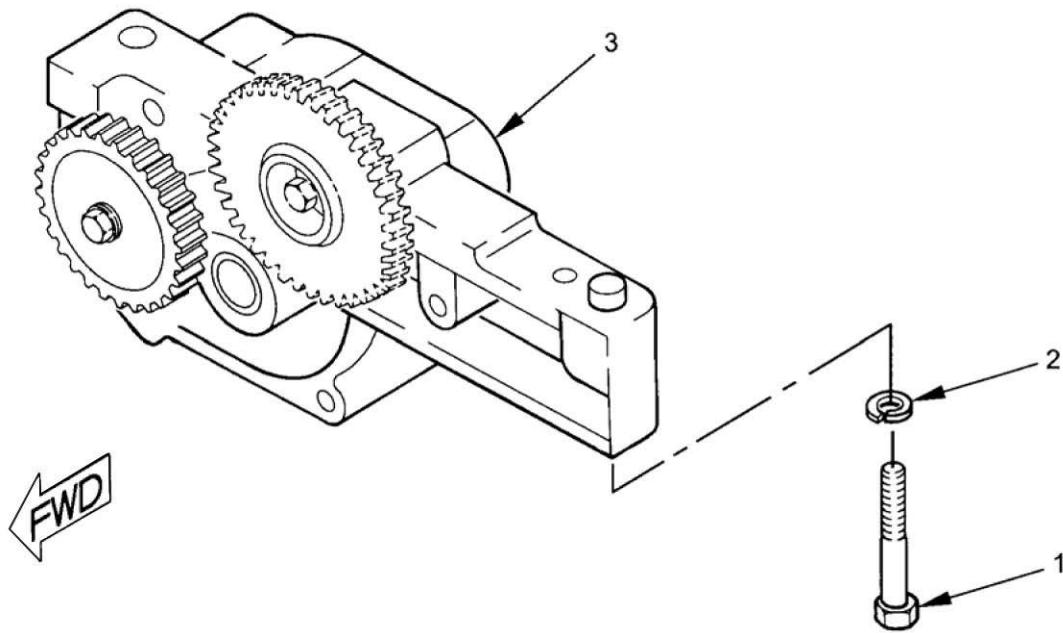

Figure 1. Engine Oil Pump.
Remove two screws (Figure 1, Item 1), lock washers (Figure 1, Item 2), and oil pump (Figure 1, Item 3).
1. Install oil pump (Figure 1, Item 3), two lock washers (Figure 1, Item 2), and screws (Figure 1, Item 1).
2. Torque two screws (Figure 1, Item 1) to 33-47 lb•ft (45-64 N•m).